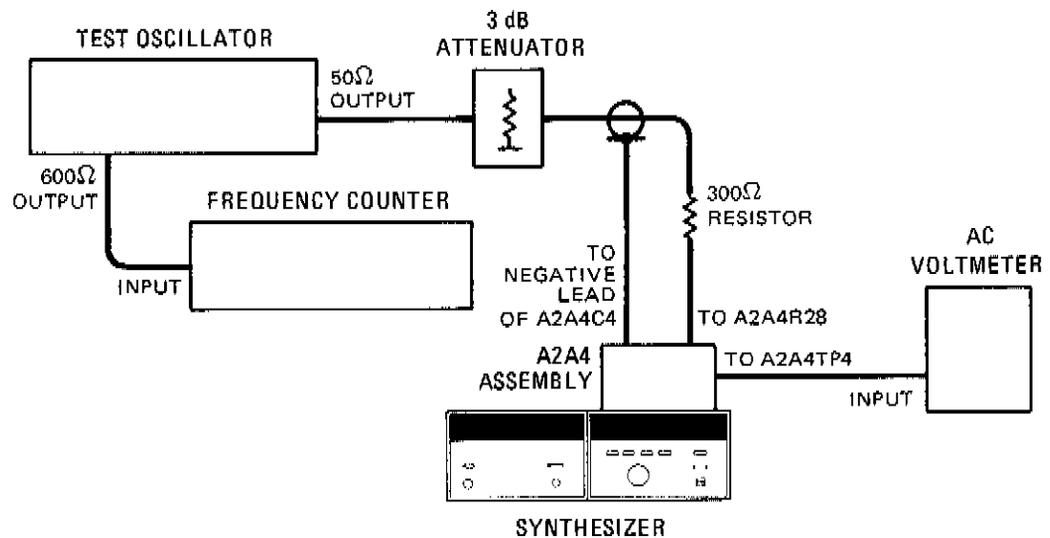

Figure 5-12. A2A4 Assembly Notch Filter Adjustment Test Setup
5. Connect the equipment as shown in Figure 5-12. The leads from the 3 dB attenuator should be as short as possible. Clip the ground wire to the negative side of A2A4C4.